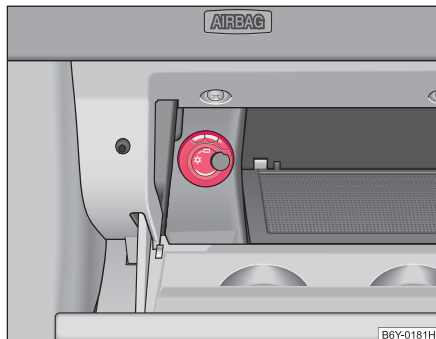

Fig. 71 Storage compartment: Using cooling system
- You can switch the cooling system on or off using the control dial ⇒ fig. 71.